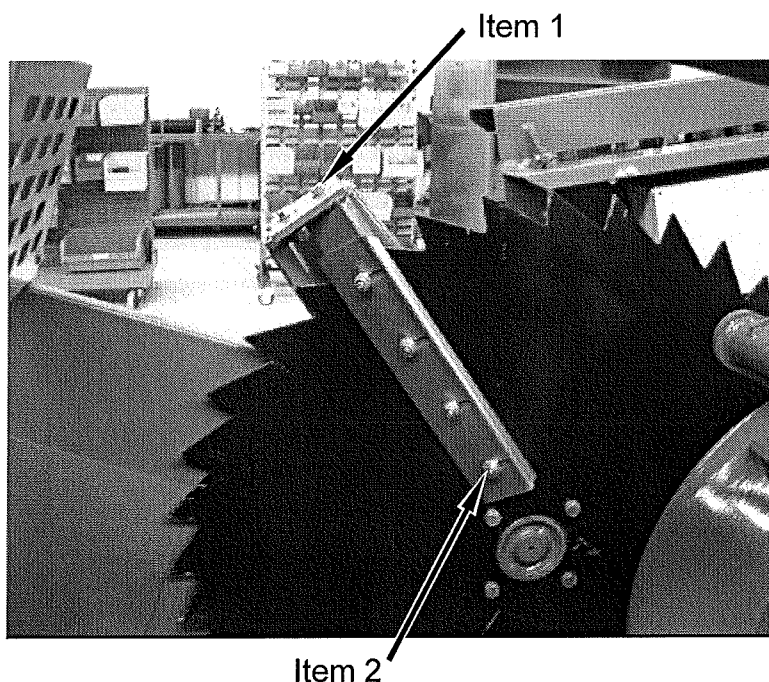

Fig 7.7
Disc scrapers will need to be adjusted to suit new disc position, and should be adjusted so that they are just clear of the disc surface. These are adjusted by slackening clamp bolts (fig 7.7 item 1) repositioning scraper and retightening.
As the disc scraper wears it can be adjusted closer to the disc by slackening clamp bolts (fig 7.7 item 2) repositioning scraper and retightening.